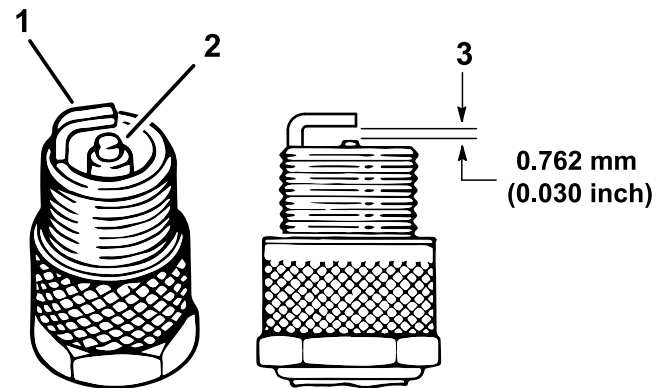

Figure 29
1. Look at the center of the spark plugs (Figure 29).
3. Check the gap between the center and side electrodes (Figure 29).
Note: Bend the side electrode (Figure 29) if the gap is not correct.
3. Install the spark-plug wire (Figure 29).